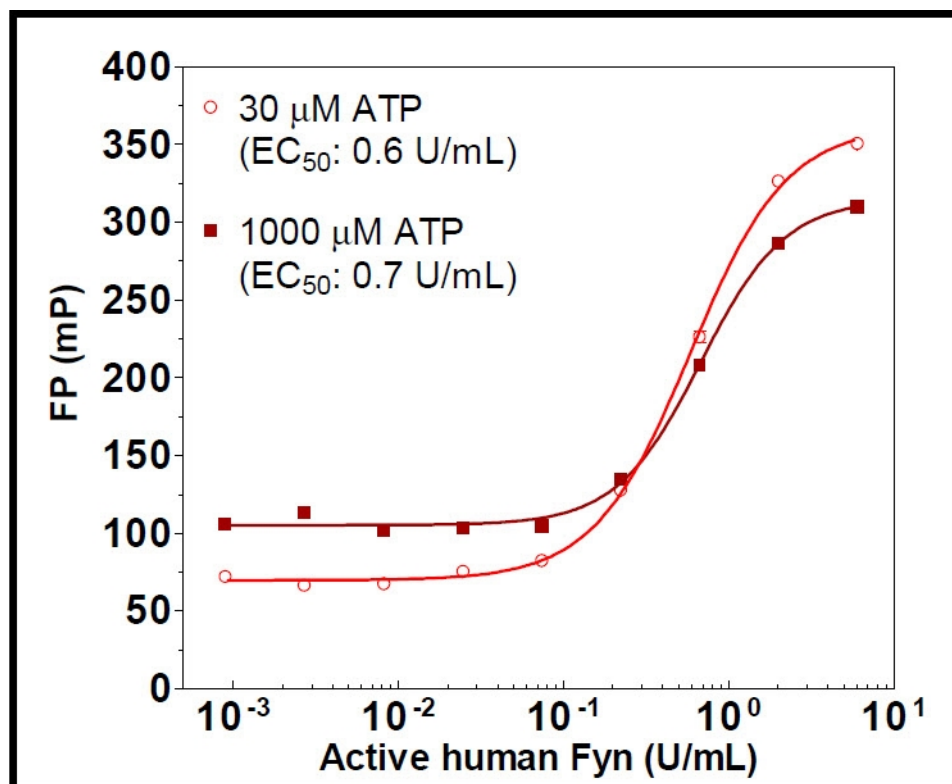

Figure 4
5. Prepare a 100 nM solution of the peptide in Complete IMAP Reaction Buffer (or the reaction buffer you use in the assay). Make a 100 nM solution of the peptide in Complete Reaction Buffer that contains the concentration of ATP planned for the assay, if applicable. Pipet 20 μ L of this peptide solution into a 384-well black plate and add 60 μ L of the Progressive Binding Solution you made in step 3. Cover the plate and incubate at room temperature for the time listed in Recommended Initial Binding Buffer Conditions on page 10 or the *IMAP Substrates* document. Measure the fluorescence polarization (FP).
- a. If the background (non-phosphorylated peptide only) FP is acceptable (usually less than 150 mP), further fine-tune the assay to allow for very high ATP concentrations (up to 500-1000 μ M ATP, see Figure 4). To accomplish this, increase the concentration of the Progressive Binding Reagent in the Binding Solution and then recheck the background FP. If the assay contains other components, such as EDTA, EGTA, phosphate, or phosphate-like molecules such as sodium orthovanadate, you may need to increase the concentration of the Progressive Binding Reagent in the assay.
This data shows the binding capacity with the Progressive System tolerates ATP concentrations up to 200 μM. This is sufficient to determine the K_m for ATP and to run assays above the K_m of ATP, even for a kinase such as CDK2/Cyclin A that has a relatively high K_m value (~80 μM). To accommodate significantly higher ATP concentrations, adjust the Binding Buffer composition, as shown in Figure 4. In this experiment, dilution curves with Fyn tyrosine kinase were run at 30 μM ATP and 1000 μM ATP using the TAMRA-labeled p34cdc2-derived peptide as the substrate. Good assay windows were achieved through an increase of Binding Reagent in the Binding Solution.